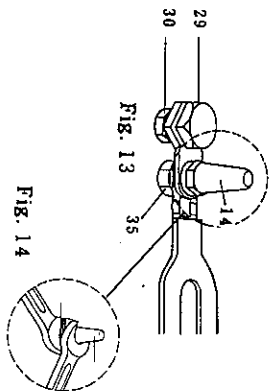

Fig. 13
Loosen (30) shown in Fig. 13 with (805) (10mm special spanner)